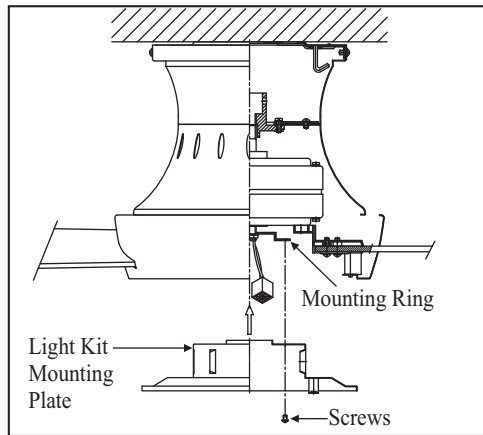

Figure 21
2. Place the key holes on the light kit mounting plate over the 2 screws previously loosened from the mounting ring, turn mounting plate until it locks in place at the narrow section of the key holes. Secure by tightening the 2 screws previously loosened and the one previously removed (Fig. 21).